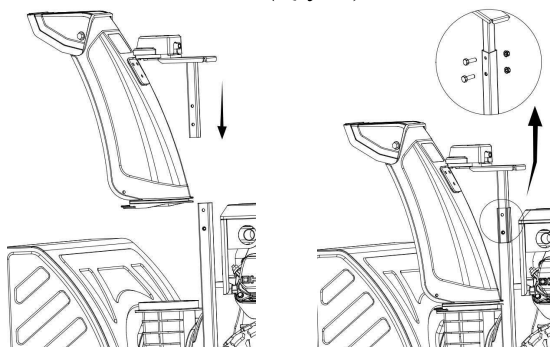

Figure 3
2. Insert Lower Discharge Chute/Support Tube Assembly into the designated Chute opening for the Lower Discharge Chute, while inserting the Support Tube into the designated base of the Frame. (See Figure 3).